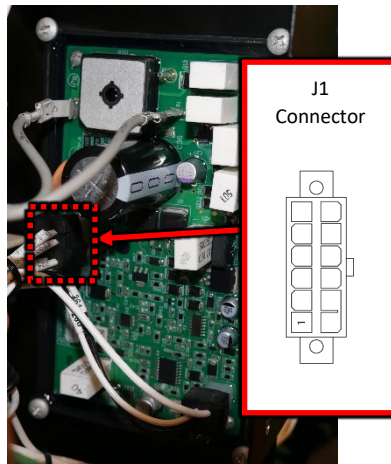

Figure F.3
A.3. Perform the static measurements in Test Table 1, refer to Figure F.3 for test point locations. **NOTE: J1 IS REMOVED FROM THE FIELD AND IDLE CONTROL BOARD, MEASUREMENTS ARE MADE ON J1 CONNECTOR HARNESS.**